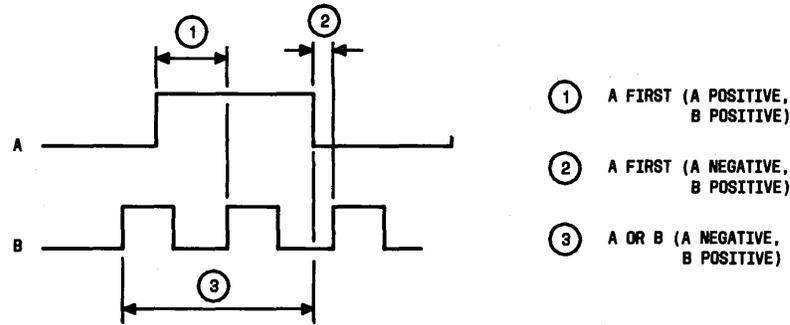

Fig. 14—Example of Internal Interval Timer
**4.38** This provides for measurement of elapsed time between two signal occurrences and pulse width of a single signal appearing on an interface lead (Fig. 14). For period measurements on a single interface lead, refer to test code 21. Time intervals from 0.01 ms to 99,990 seconds (27 hours, 46 minutes) may be measured. Signals appearing on interface leads may be selected for measurement and are routed to the timer inputs A and B via the programmable cross-connect network (test code 48 and Table K).
**4.39** This test accomplishes the same function as test code 20 and provides for measurement of elapsed time between two signal occurrences and period or pulse width of a single signal appearing on an interface lead (Fig. 14).